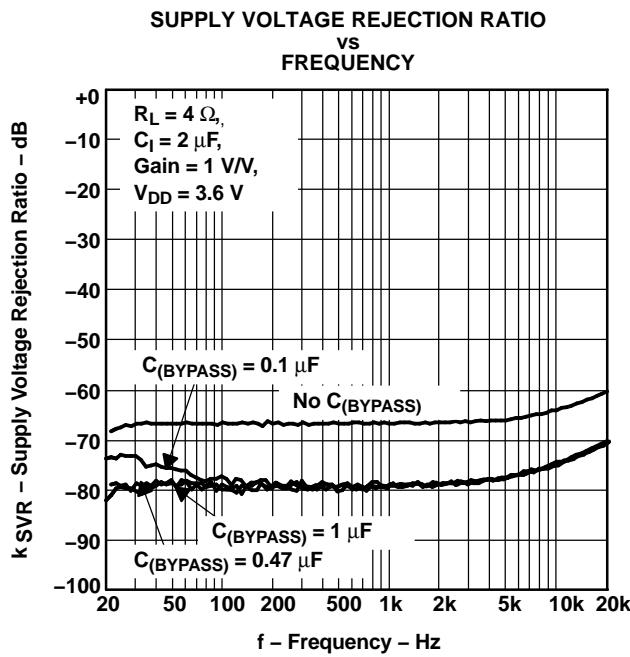

Figure 18.
- **Mid-supply bypass capacitor, $C_{(BYPASS)}$, not required:** The fully differential amplifier does not require a bypass capacitor. Any shift in the mid-supply voltage affects both positive and negative channels equally, thus canceling at the differential output. Removing the bypass capacitor slightly worsens power supply rejection ratio (k_{SVR}), but a slight decrease of k_{SVR} may be acceptable when an additional component can be eliminated (see Figure 18).